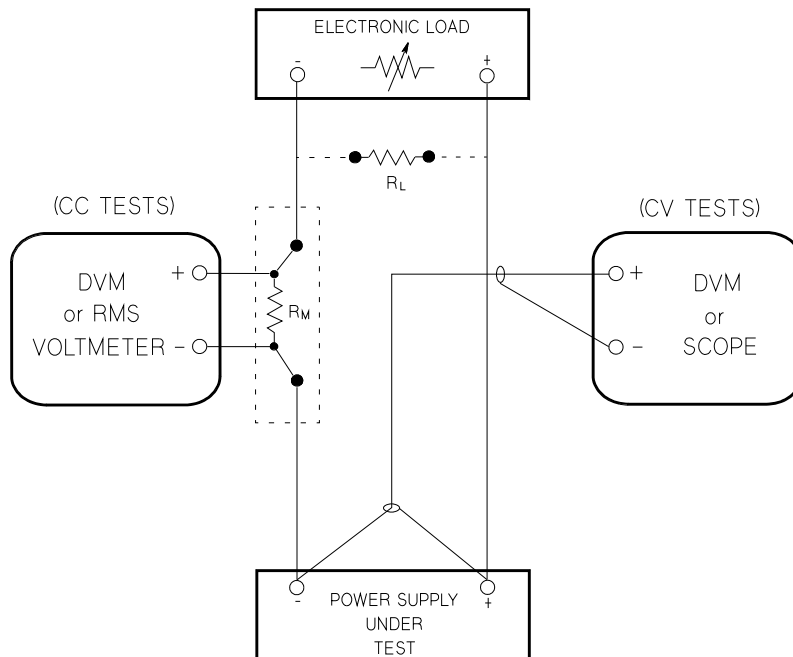

Figure 1-1 Performance verification test setup
To eliminate output current measurement error caused by the voltage drops in the leads and connections, connect the current monitoring resistor between the (–) output terminal and the load as a four-terminal device. Connect the current-monitoring leads inside the load-lead connections directly at the monitoring points on the resistor element (see R_M in Figure 1-1).
- 1 Turn off the power supply and connect a digital voltmeter between the (+) and (–) terminals of the output to be tested as shown in Figure 1-1.
- 1 Turn off the power supply and connect a digital voltmeter between the (+) and (–) terminals of the output to be tested as shown in **Figure 1-1**.
- 1 Turn off the power supply and connect the output to be tested as shown in **Figure 1-1** to an oscilloscope (AC coupled) between (+) and (–) terminals. Set the oscilloscope to AC mode and bandwidth limit to 20 MHz. Connect a resistive load (7.5 Ω) as shown in **Figure 1-1**.
- 1 Turn off the power supply and connect the output to be tested as shown in Figure 1-1 with an oscilloscope. Operate the electronic load in constant current mode.
- 1 Turn off the power supply and connect the output to be tested as shown in **Figure 1-1** with the digital voltmeter connected across the 0.01Ω current monitoring resistor (R_M).
- 1 Turn off the power supply and connect the output to be tested as shown in Figure 1-1 with the digital voltmeter connected across the current monitoring resistor (R_M).